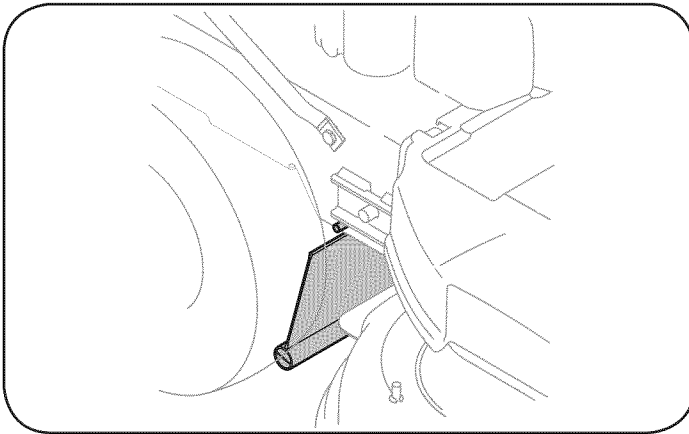

Figure 19
2. Bend (bow) the trailing shield inward on each side to release tabs from the holes in the mower frame, Figure 19.